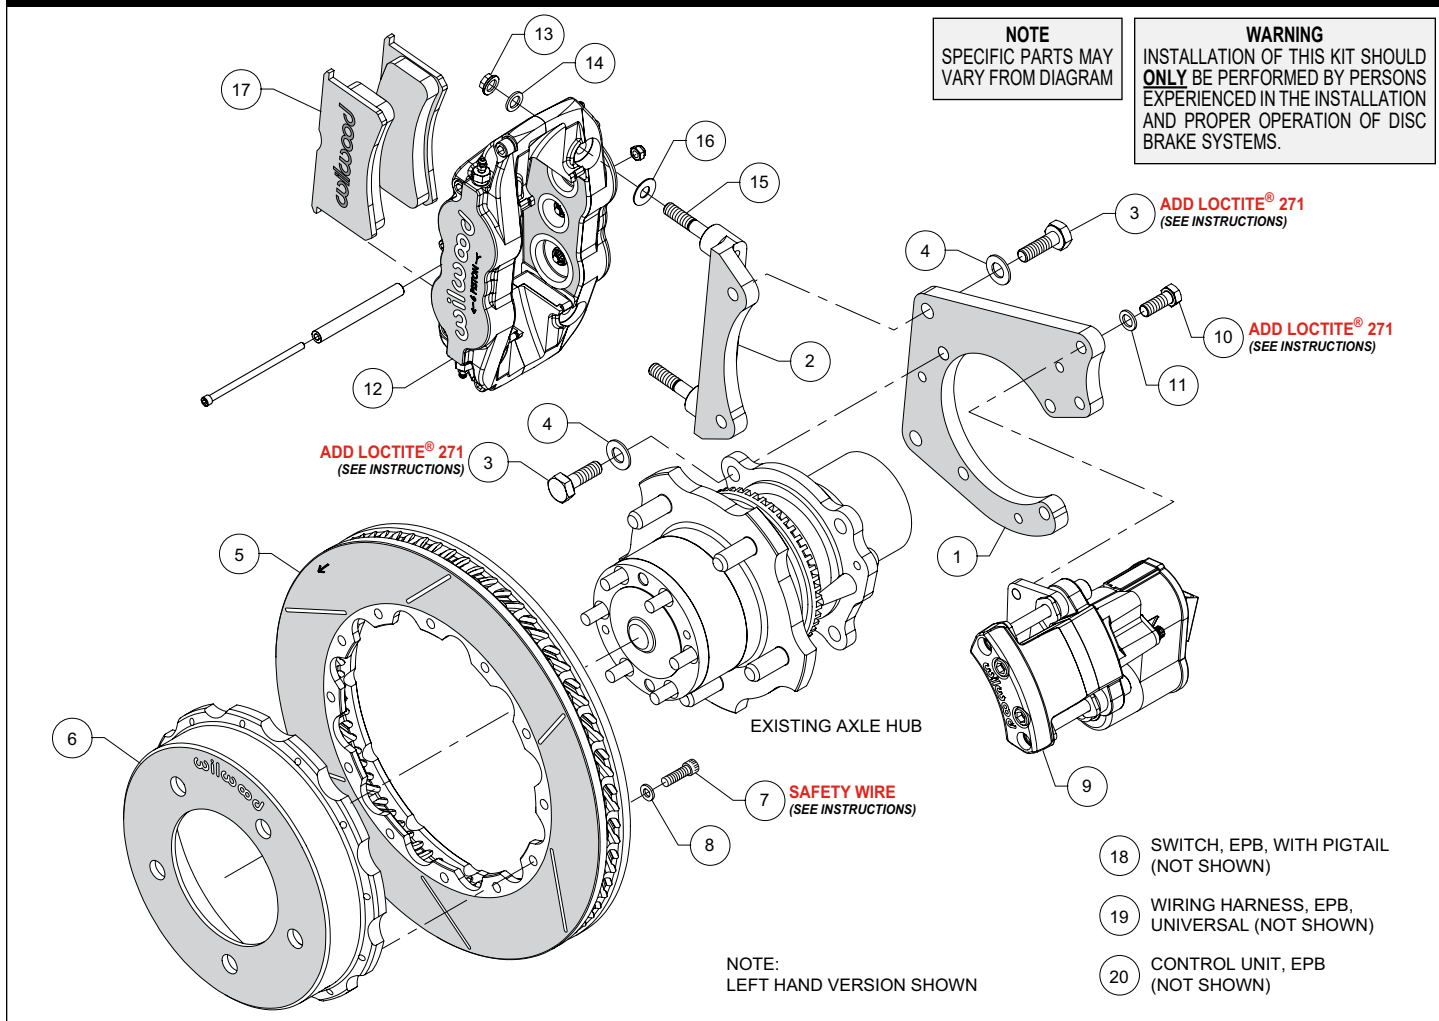
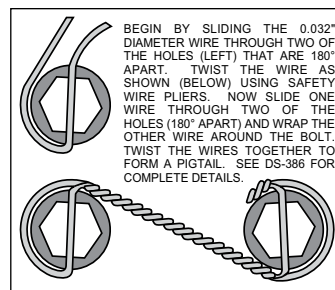

Figure 1. Typical Installation Configuration
Figure 3. Safety Wire Diagram
**NOTE:** Numbers in parenthesis refer to the parts list and Figure 1 on the preceding pages.
- The flat bracket (1) should initially be installed with clean, dry threads on the mounting bolts. Orient the bracket as shown in Figure 1, and Photo 1, and install using bolts (3) and washers (4). Temporarily tighten the mounting bolts. **NOTE:** *The bracket must fit squarely against the axle flange.* Inspect for interference from casting irregularities, machining ridges, burrs, etc. Remove the bracket mounting bolts one at a time, apply red *Loctite*® 271 to the threads, and torque to 60 ft-lbs.
- The caliper mount bracket (2) should initially be installed with clean, dry threads on the mounting bolts. Orient the bracket as shown in Figure 1 and Photo 2, and install using mount bolts (3) and washers (4). Temporarily tighten the mounting bolts. Inspect for interference from casting irregularities, etc. Remove the bracket mounting bolts one at a time, apply red *Loctite*® 271 to the threads, and torque to 60 ft-lbs.
- Orient the rotor (5) and the hat (6) as shown in Figure 1 and Photo 3. Attach rotor to hat using bolts (7) and washers (8). Apply red *Loctite*® 271 to the bolt threads and torque to 155 **in-lb** using a criss-cross pattern. Safety wire bolts using standard 0.032 inch diameter stainless steel safety wire as shown in Figure 3. Please refer to Wilwood's data sheet DS-386 (available at [www.wilwood.com/Pdf/DataSheets/ds386.pdf](http://www.wilwood.com/Pdf/DataSheets/ds386.pdf)) for complete safety wire installation instructions.
- NOTE:** *This kit contains distinct right and left hand calipers that must be mounted in a specific direction, as described below.* Initially place one .035" thick shim (16) on each stud (15) between the caliper and the bracket, as shown in Figure 1 and Photo 5. Mount the caliper (12) onto the bracket (2) using lock nuts (13) and washers (14), Figure 1. Temporarily tighten the lock nuts. Ensure that the caliper is mounted so the largest pistons are at the rotor exit end of the caliper, in relation to the direction of the rotor.
- Remove the caliper center bridge pad retainer bolt, nut, and tube from the caliper. Insert the brake pads (17) into the caliper, with the friction material facing the rotor, as shown in Photo 6. Check that the top of the brake pad is flush with the outside diameter of the rotor, Photo 7. If not, adjust by adding or subtracting shims (16) between the caliper and the bracket. After the caliper pad height is set, torque the caliper lock nuts (13) to 30 ft-lb. Secure the brake pads in place with the center bridge pad retainer tube, bolt, and locknut, Photo 8. The locknut should be snug without play in the bolt or tube. Be cautious not to over tighten.
- Mount the EPB caliper (9) onto the flat bracket (1) using bolts (10) and washers (11), as shown in Figure 1 and Photo 9. Apply red *Loctite*® 271 to bolt threads, and torque to 30 ft-lb.